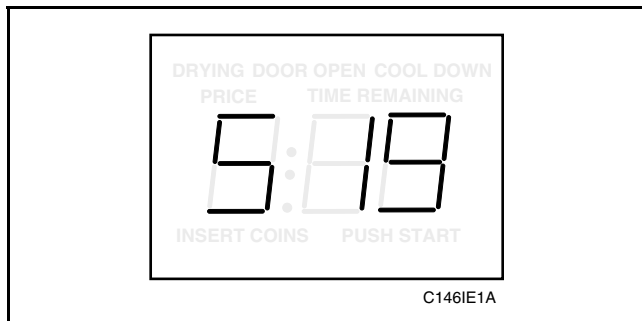

Figure 28
2. While pressing and holding the HIGH TEMP pad with one hand, press the MED TEMP pad with the other hand. Programmable option number 1, (Audio Signal “SIg”), will appear in the VFD, *Figure 28*.